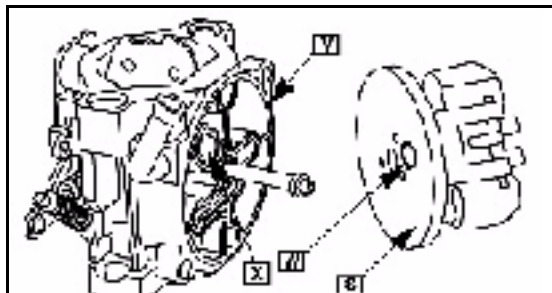

Fig. 148
**NOTE:** The locating tang (W) on the float assembly must be placed in the recess ([X] Fig. 148) of the carburetor base as shown.
19. Place the float assembly (S) on the carburetor base ([V] Fig. 148).